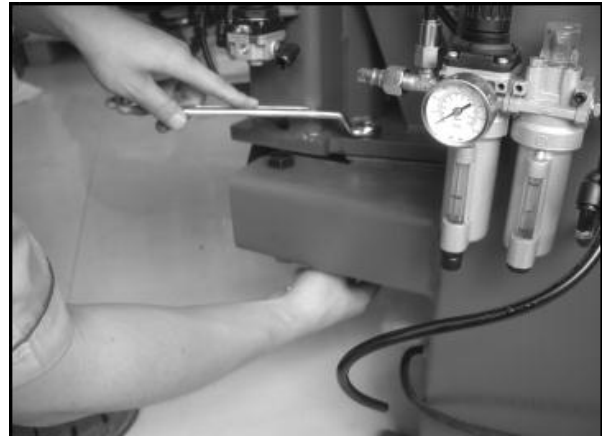

FIG5
4.2.2 put the helper onto the base board vertically, align the holes in base board then insert the screws (FIG3-5) then install the base flat board (FIG3-3) from the bottom to the screws; then install the flat washer and screw nuts slightly, just contact (FIG5).